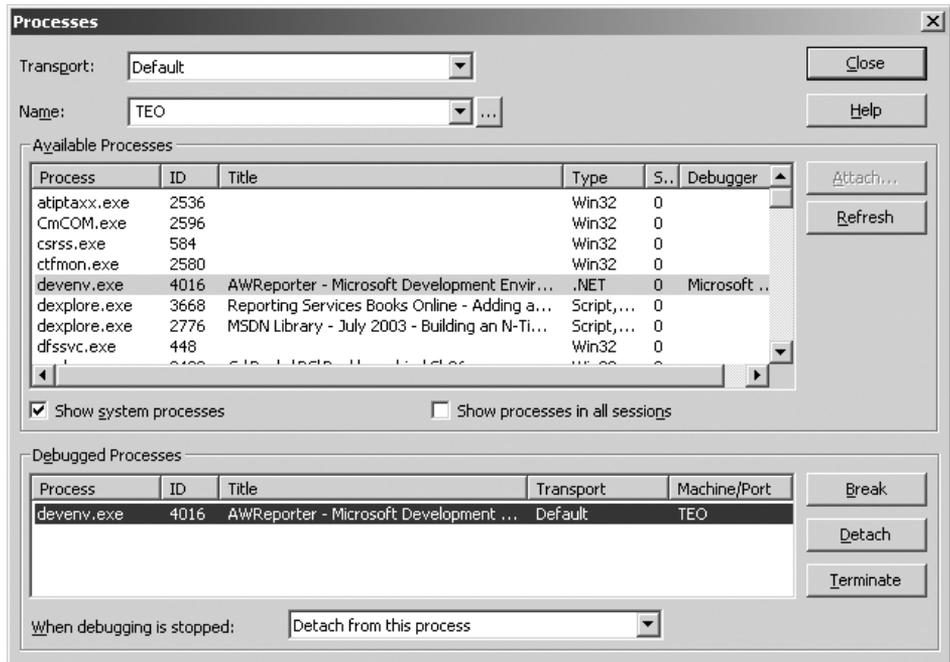

Figure 6.9 To debug custom assemblies, attach to the Visual Studio instance that hosts your BI project.
- Step 4** Back at the custom assembly project, click on the Debug menu and then choose Processes. Locate the devenv process that hosts that the Business Intelligence project and attach to it. In the Attach To Process dialog, make sure that the Common Language Runtime check box is selected, and click Attach. At this point, your Processes dialog should look like the one shown in figure 6.9.